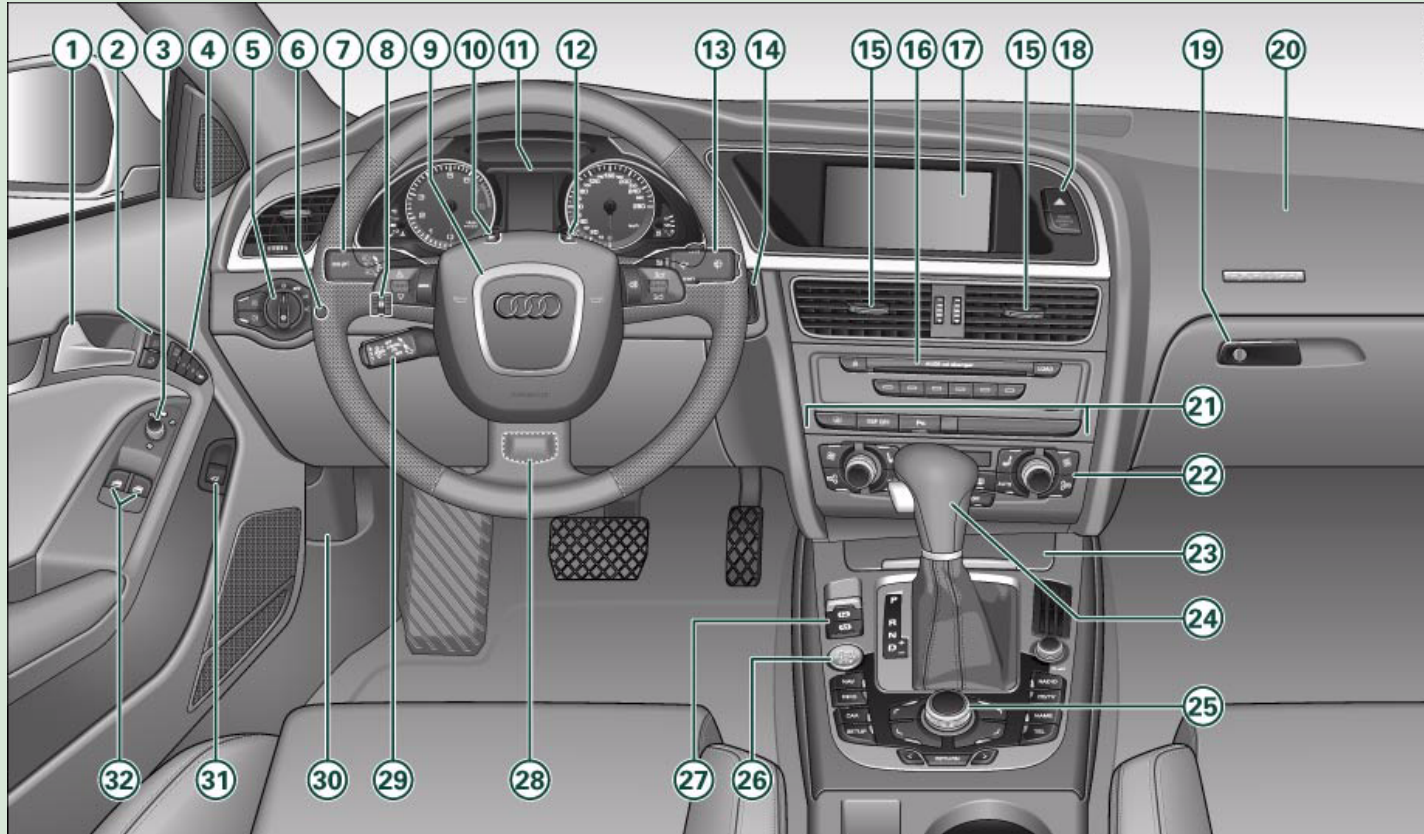

Fig. 1 Some of the items of equipment listed in this section are only fitted on certain models or are optional extras.
- The arrangement of switches and controls on right-hand drive models\* may be slightly different from the layout shown in the illustration => page 8, fig. 1. However, the symbols used to identify the controls are the same. ■